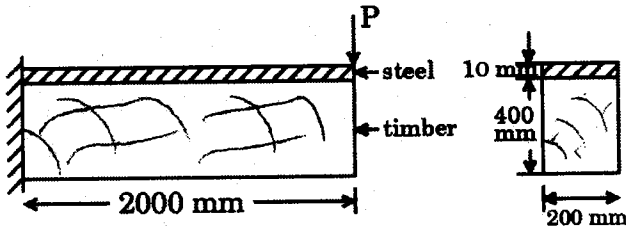

Figure 7
6. Find the value of 'P' for the following (Figure 7) composite beam (neglecting the self weight), if the maximum flexural stresses in steel and timber are limited to 40 MPa and 2.5 MPa.